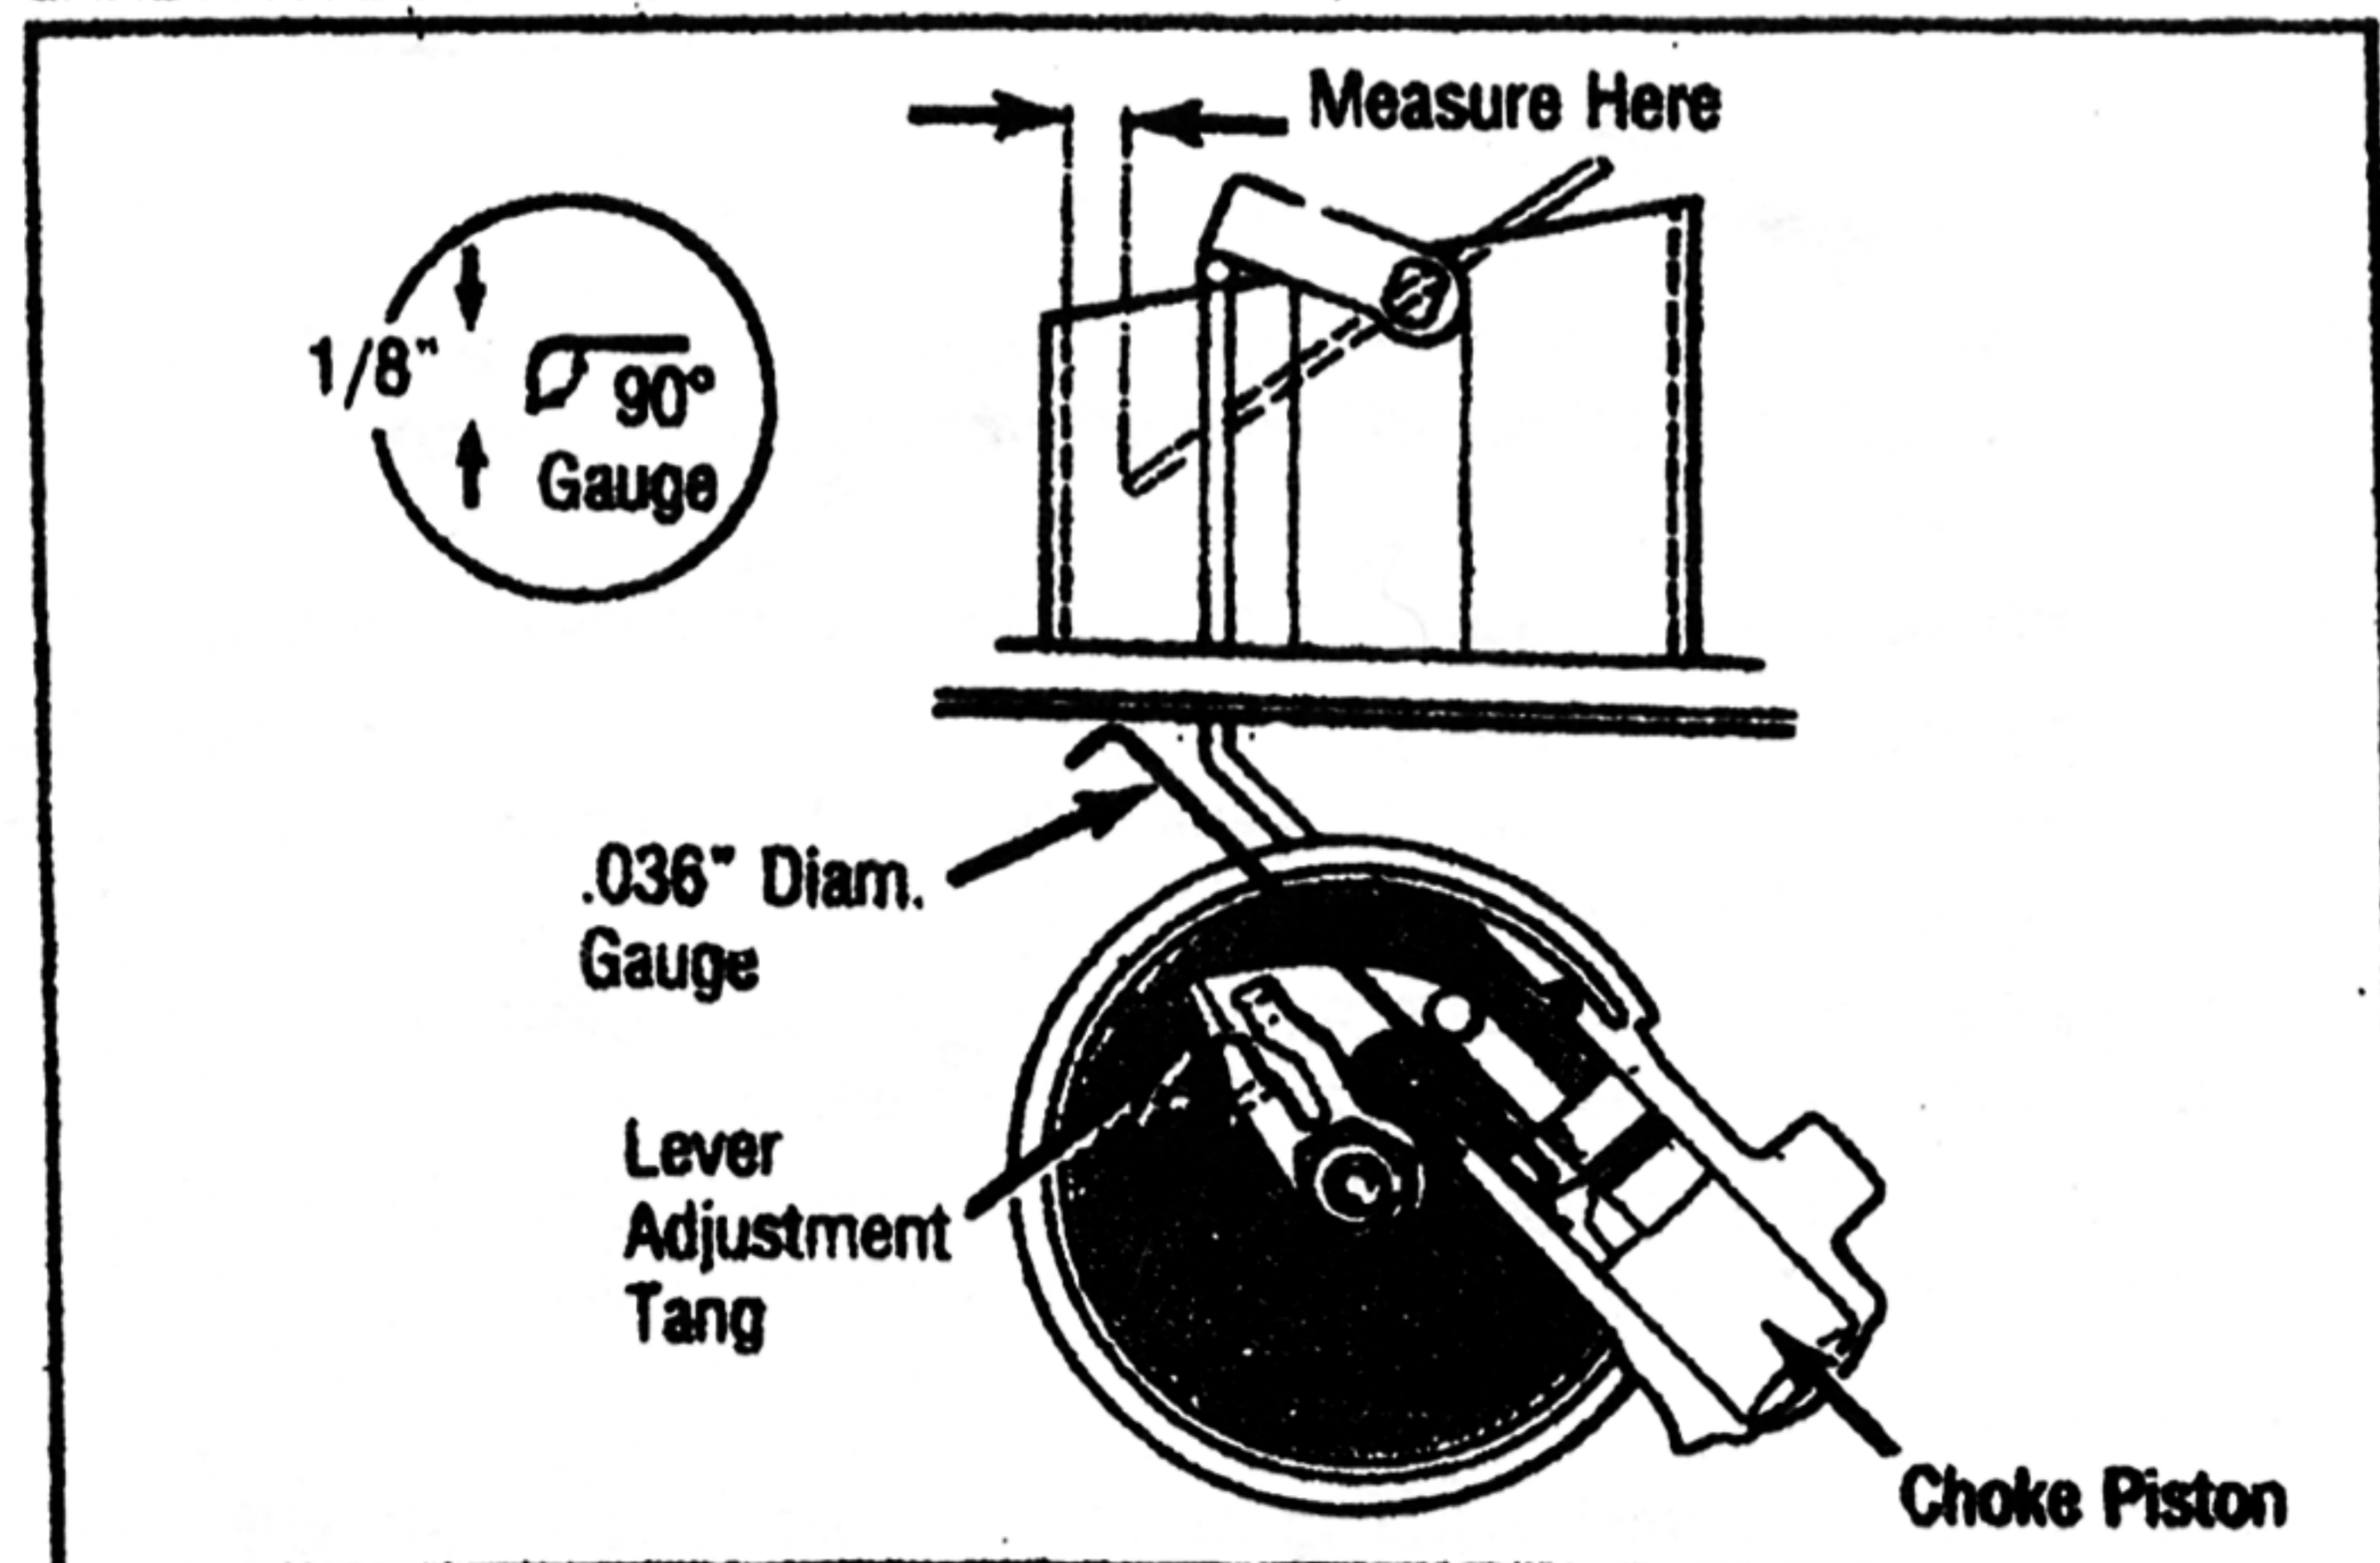

Fig. 10 Choke Pull Down Adjustment (Early Integral Piston Type)
1. Remove choke coil housing and baffle plate. Insert a .036" diameter wire gauge into the piston bore. Hook gauge into relief in bore. See Fig. 10.
NOTE: A gauge can be constructed from a paper clip if necessary. Construct the gauge to the dimensions shown in Fig. 10.